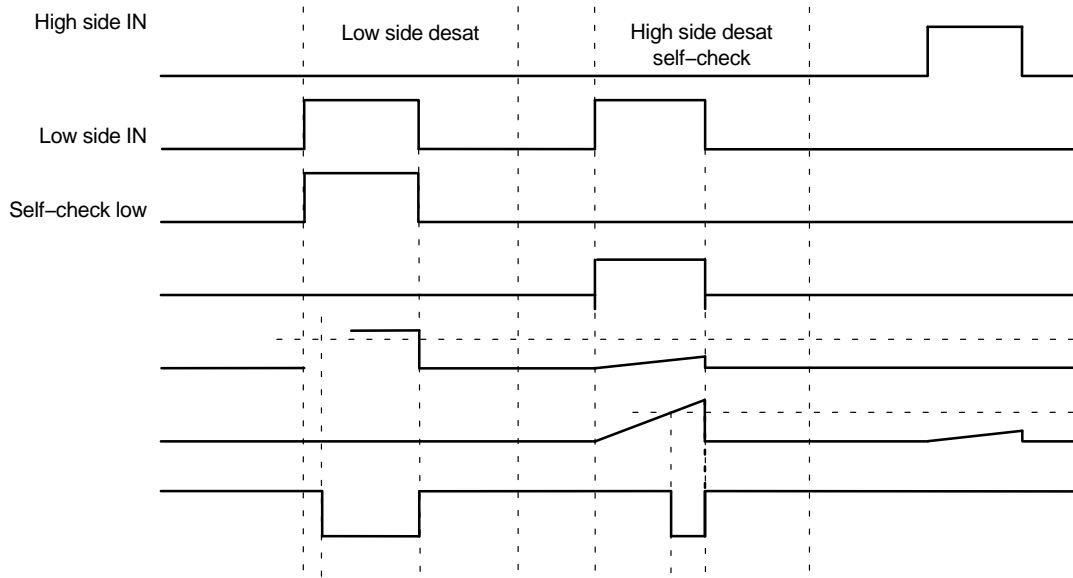

Figure 14. Self-check Sequence for High Side and Low Side Gate Driver
- During self-check mode of low side gate driver, the output of the high side gate driver should be turned off. The self-check sequence for low side desat protection circuit is as follows: (Please refer to the low side components in Figure 13 and the self-check sequence in Figure 14 for details.)